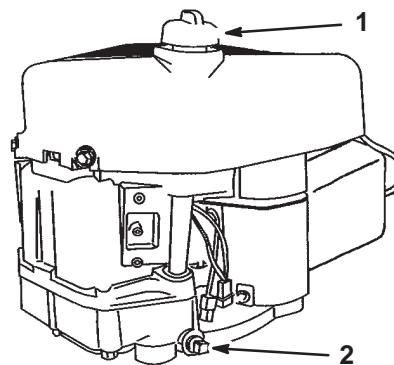

Figure 17
3. Clean around the oil dipstick (Fig. 17) so that dirt cannot fall into the fill hole and damage the engine.
4. Place a pan below the drain plug and remove it (Fig. 17).